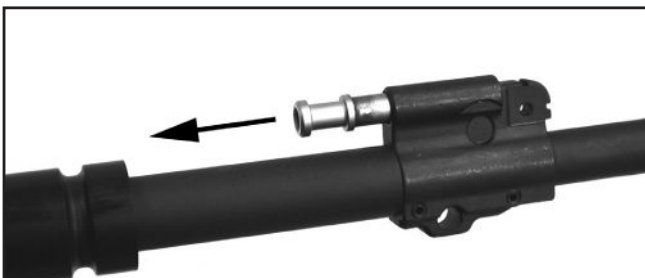

Fig. 49 – Removing Gas Piston
- d. Slide the gas piston to the rear and remove the gas piston from the gas block (Fig. 49).